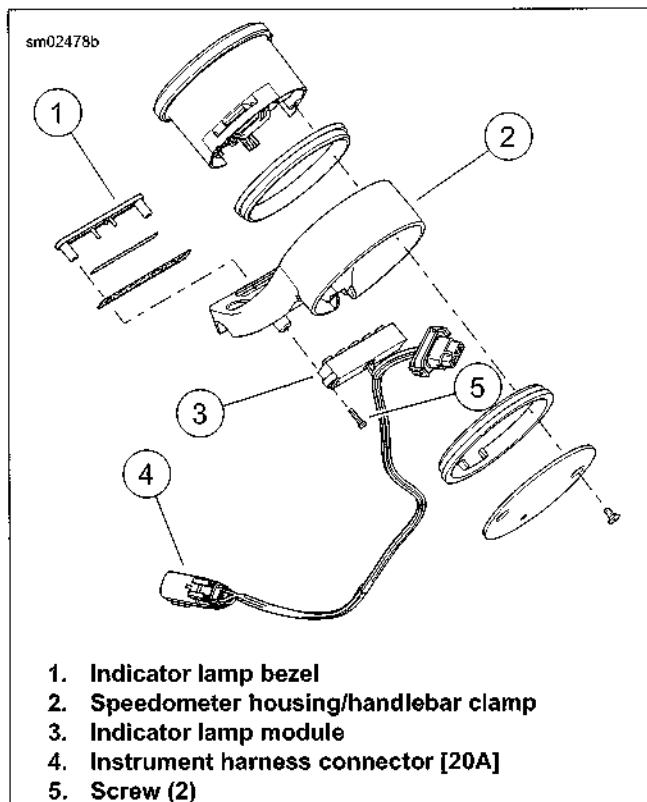

Figure 6-39. Indicator Lamps: XL 883R/L/N, XL 1200CP/CB w/Mini-ape Handlebar, XL 1200T/X/V
2. See Figure 6-39. Holding speedometer housing/handlebar clamp (2), remove four screws securing housing/clamp assembly to handlebar risers.
3. Remove two screws (5) to separate indicator lamp module (3) from speedometer housing/handlebar clamp and indicator lamp bezel.
8. See Figure 6-39. Assemble indicator lamp bezel (1) and indicator lamp module (3) onto speedometer housing/handlebar clamp (2). Secure with two screws (5).